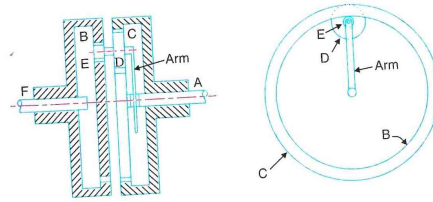

Figure 2
- (b) In the gear train shown in Figure 2, the various gear teeth are Fixed internal wheel c has 82 teeth. D has 28 teeth and B has 80 teeth. Arm making 500 rpm. Find the speed of gear B. [7M]